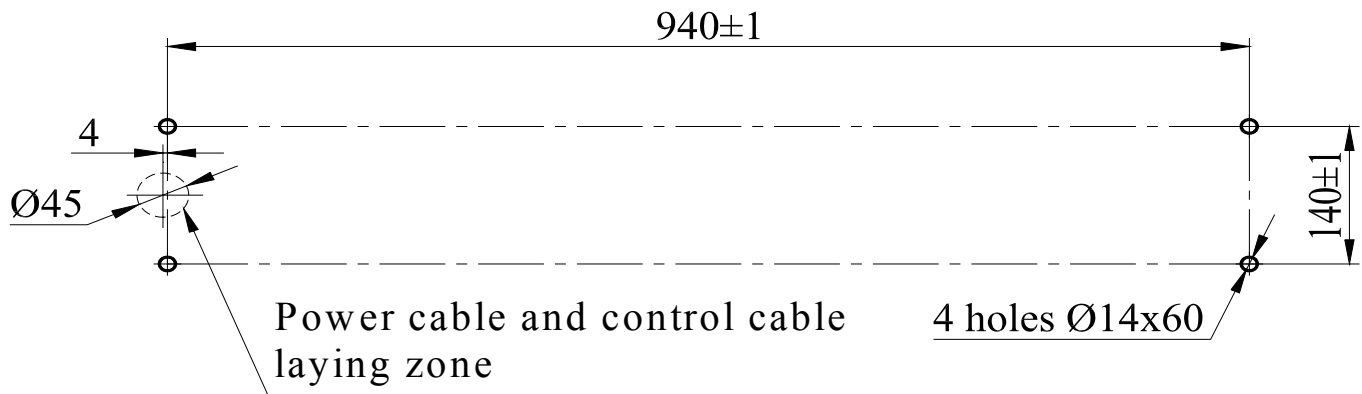

Fig. 10. Hole pattern for the turnstile housing mounting
- to mark the mounting holes according to Fig. 10;
8.4.2. Drill the holes for anchor bolt sleeves for fixing of the turnstile housing (see Fig. 10).